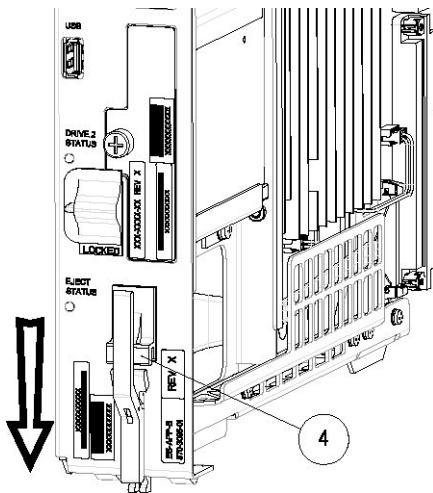

Figure 46: E5-APP-B Card Inject Hardware Switch, LOCKED
4. Slide the E5-APP-B Ejector switch (4) down to the LOCKED position (see Figure 46: E5-APP-B Card Inject Hardware Switch, LOCKED).